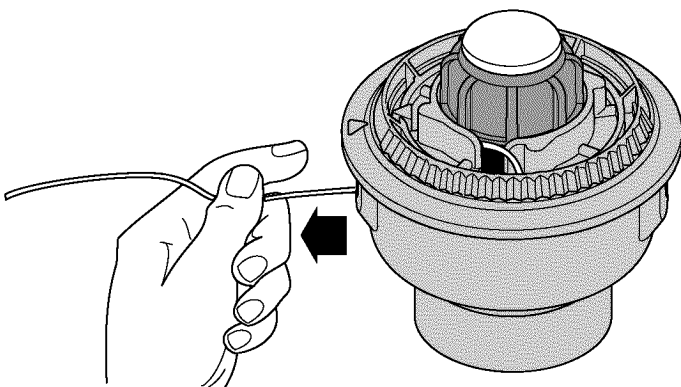

Fig. 19
6. Pull the line from the outer spool until the line is tight against the inner reel (Fig. 19).